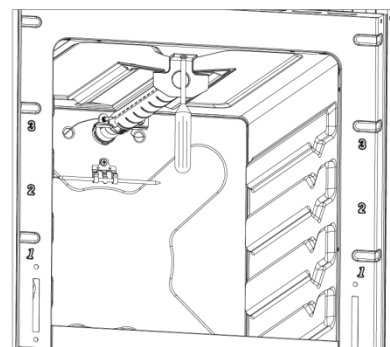

fig. 23
- Remove the burner by unscrewing the front screw (fig. 23)